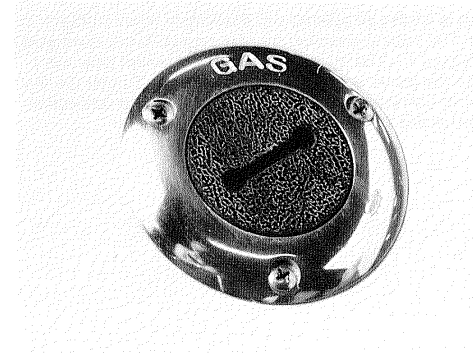

Figure 15
5. A special key to unlock the fuel cap is given to you. Insert the key in the slot in the cap. The fuel cap is midship in the port gunwale. See figure 15.